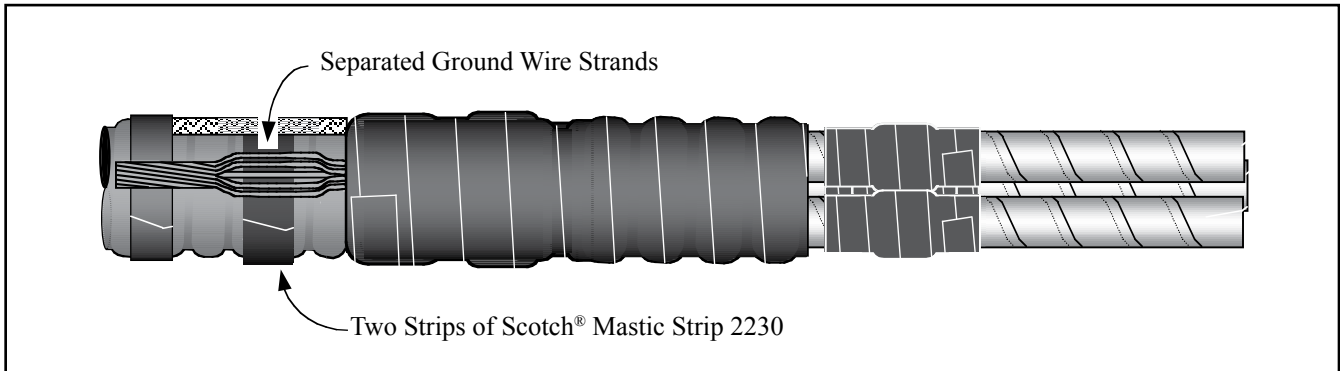

Figure 9
2.12 Separate ground wire strands over Strips of Scotch® Mastic Strip 2230 as shown (Figure 9).